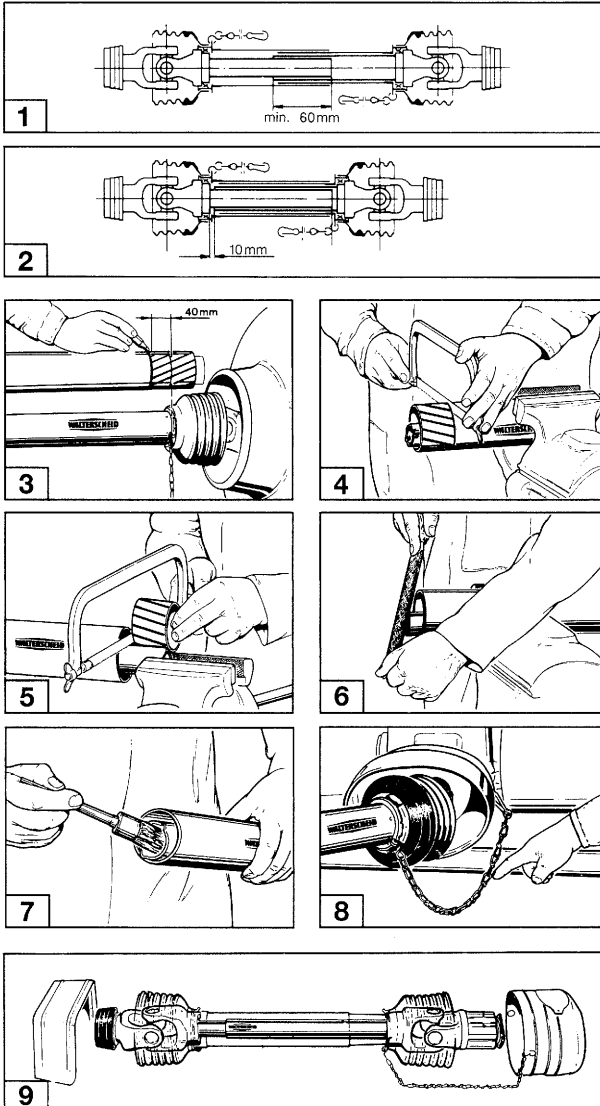

Fig. 5.2
**When first mounting the machine to the tractor match the pto shaft according to Fig. 5.2. As this matching refers only to the one tractor type this matching procedure should be repeated and checked whenever a different tractor is used.**